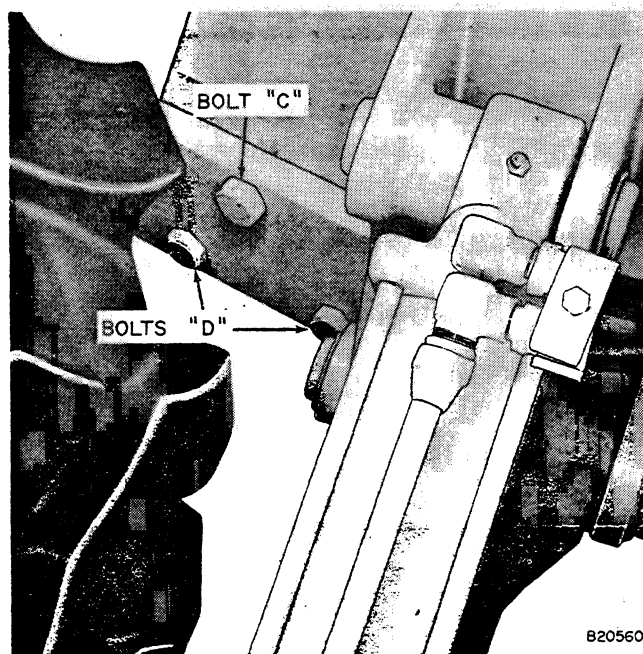

Figure 27 - Bolts to be Removed
4. REFERRING TO FIGURE 27: Remove mounting bolts "C" and "D".
4. Line up bolt holes in support arms and Backhoe mounting frame. Insert bolts "C" and "D", see Figure 27.